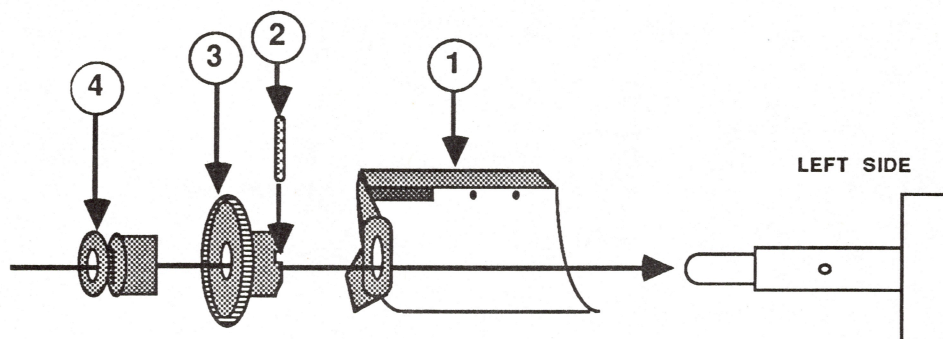

FIGURE 36
1. Assemble the left side of the platen (see Figure 36). Slide the paper empty frame (see Figure 36, #1) into position and insert the pin (see Figure 36, #2). Slide the platen gear and then the platen bushing into position (see Figure 36, #3 and #4).